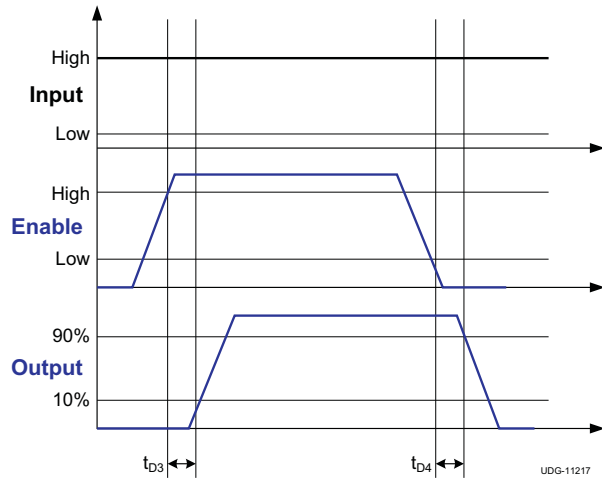
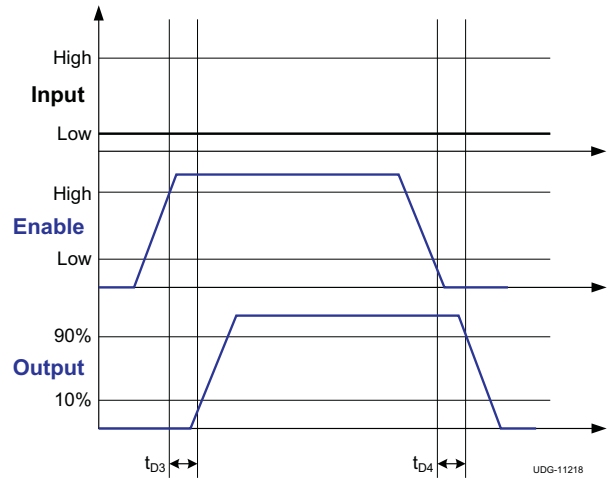
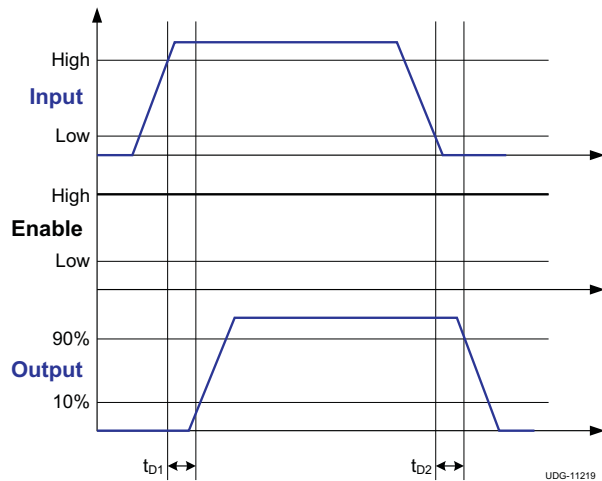
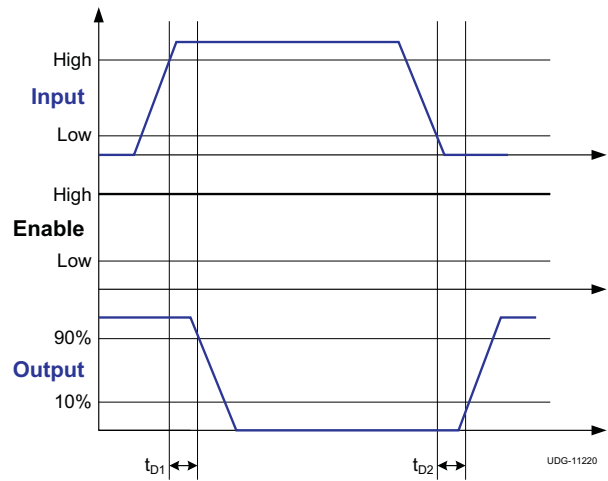

Figure 1. Enable Function (for non-inverting input driver operation)
Figure 2. Enable Function (for inverting input driver operation)
Figure 3. Non-Inverting Input Driver Operation
Figure 4. Inverting Input Driver Operation
(1) Ensured by design.
(2) R_{OH} represents on-resistance of only the P-Channel MOSFET device in pull-up structure of UCC2752X output stage.
(3) See timing diagrams in Figure 1, Figure 2, Figure 3 and Figure 4